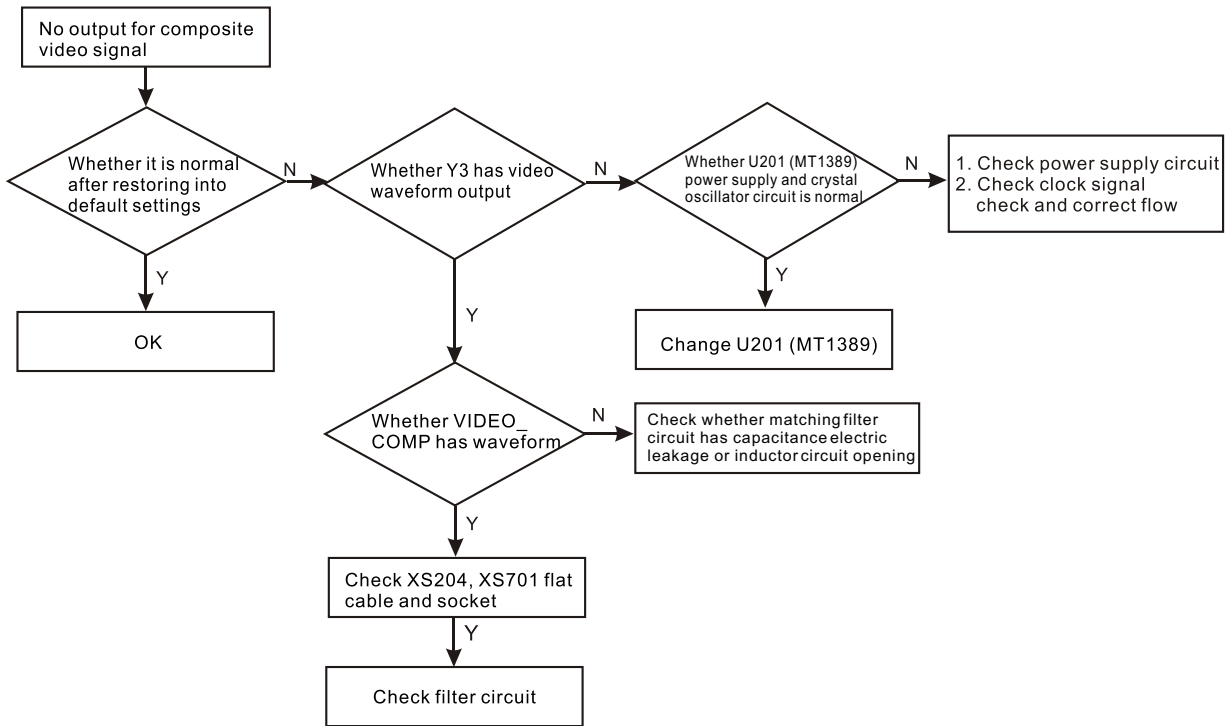

Figure 3.2.10.4 Troubleshooting flow chart of "No output for composite video"
(3) Troubleshooting process for "No colour of picture" is shown as the following figure 3.2.10.5: